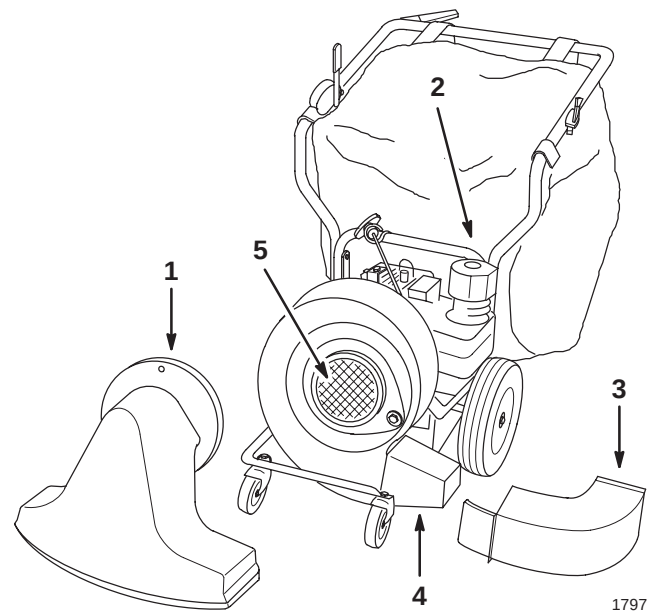

Figure 15
2. Remove the locknut and washer securing the snout and remove the snout (Fig. 15).
3. Remove the bag neck from blower discharge chute (Fig. 15). (You may remove the entire bag if desired.)
4. Remove the retaining bolt and lock washer securing the blower discharge chute and remove the chute (Fig. 15).
5. Install the blower tube, securing it with the fasteners removed in step 4 (Fig. 15).
10. Lift blower housing slightly and rotate it 120° clockwise (as you face the blower) (Fig. 15).
14. Install the blower intake screen, securing it with the washer and locknut removed in step 2 (Fig. 15).